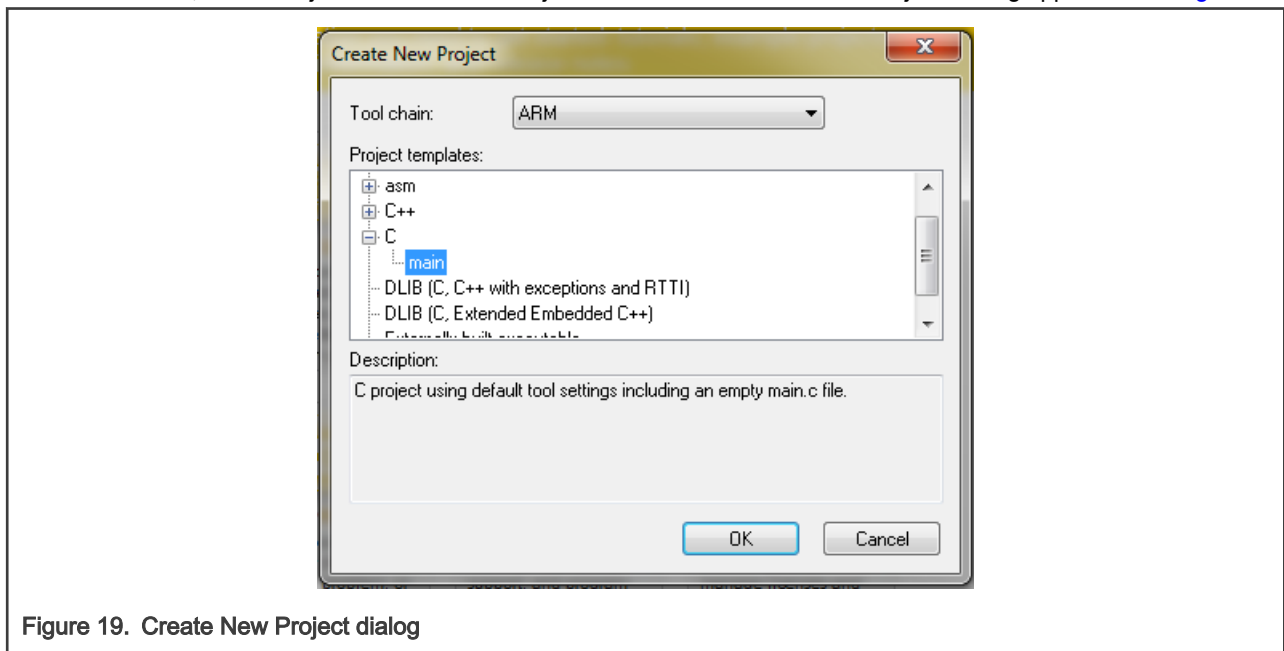

Figure 19. Create New Project dialog
2. In the main menu, select Project > Create New Project... so that the "Create New Project" dialog appears. See Figure 19.